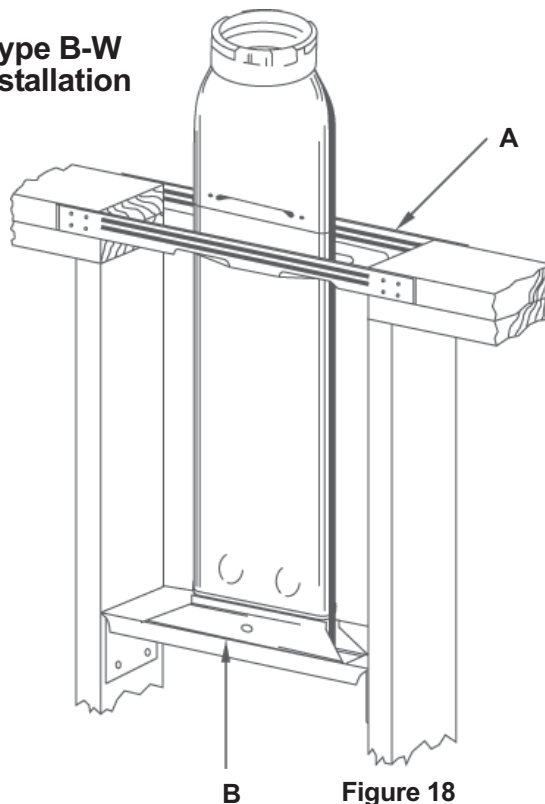

Figure 18
- The installation must contain an Oval Hold-Down Plate (4OHD) at the base, Oval Plate Spacers (4OPS) at the first ceiling level, and Firestop Spacers (4OPS) at any additional floor levels. See **Figures 18** and **19**.
- Nail one Plate Spacer (4OPS), (A), across cut-out area in ceiling plate. See **Figure 18**. Plate Spacer (4OPS) is required at the first ceiling level above a wall furnace to center and space vent properly and to provide the required opening between floors.
- Snap Hold-Down Plate (4OHD), (B), onto bottom end of pipe as shown in **Figure 18**. Install Vent Section in position. Use two No. 8 binder head sheet metal screws to attach Hold-Down Plate firmly to Furnace header plate through pre-punched holes.
- Nail second Plate Spacer across cutout ceiling plate as shown in **Figure 18**. Firestop Spacers (OFS) must be used at subsequent levels.